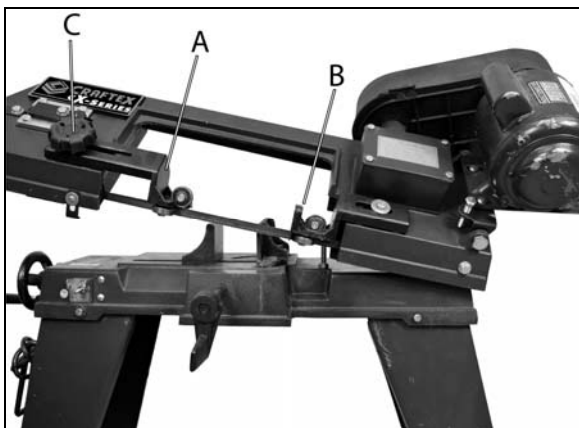

Figure 9
The left and right blade guide brackets (A) and (B) are adjustable by lock knobs (C) and sliding the brackets to accommodate the width of the work-piece. The guide brackets should be set as close as possible to the work-piece (as shown in Fig.9) without interfering with the work-piece or contacting the table. Once the adjustment is made, tighten the lock knobs (C).